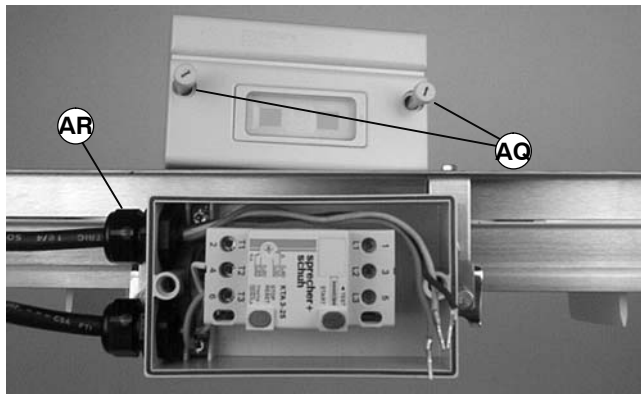

Figure 22
1. Loosen cover screws (AQ of Figure 22). Remove cover.
5. Install cover and tighten screws (AQ of Figure 22).